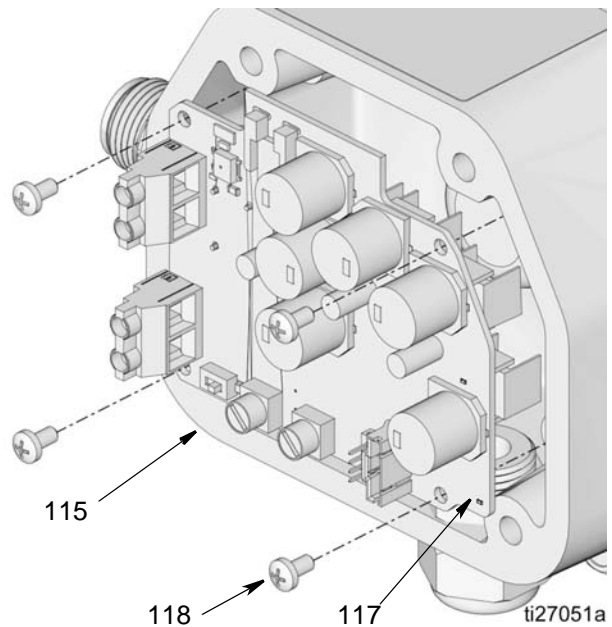

FIG. 68
- Remove screws (118) securing motor control board (117) to housing (115) (FIG. 68).